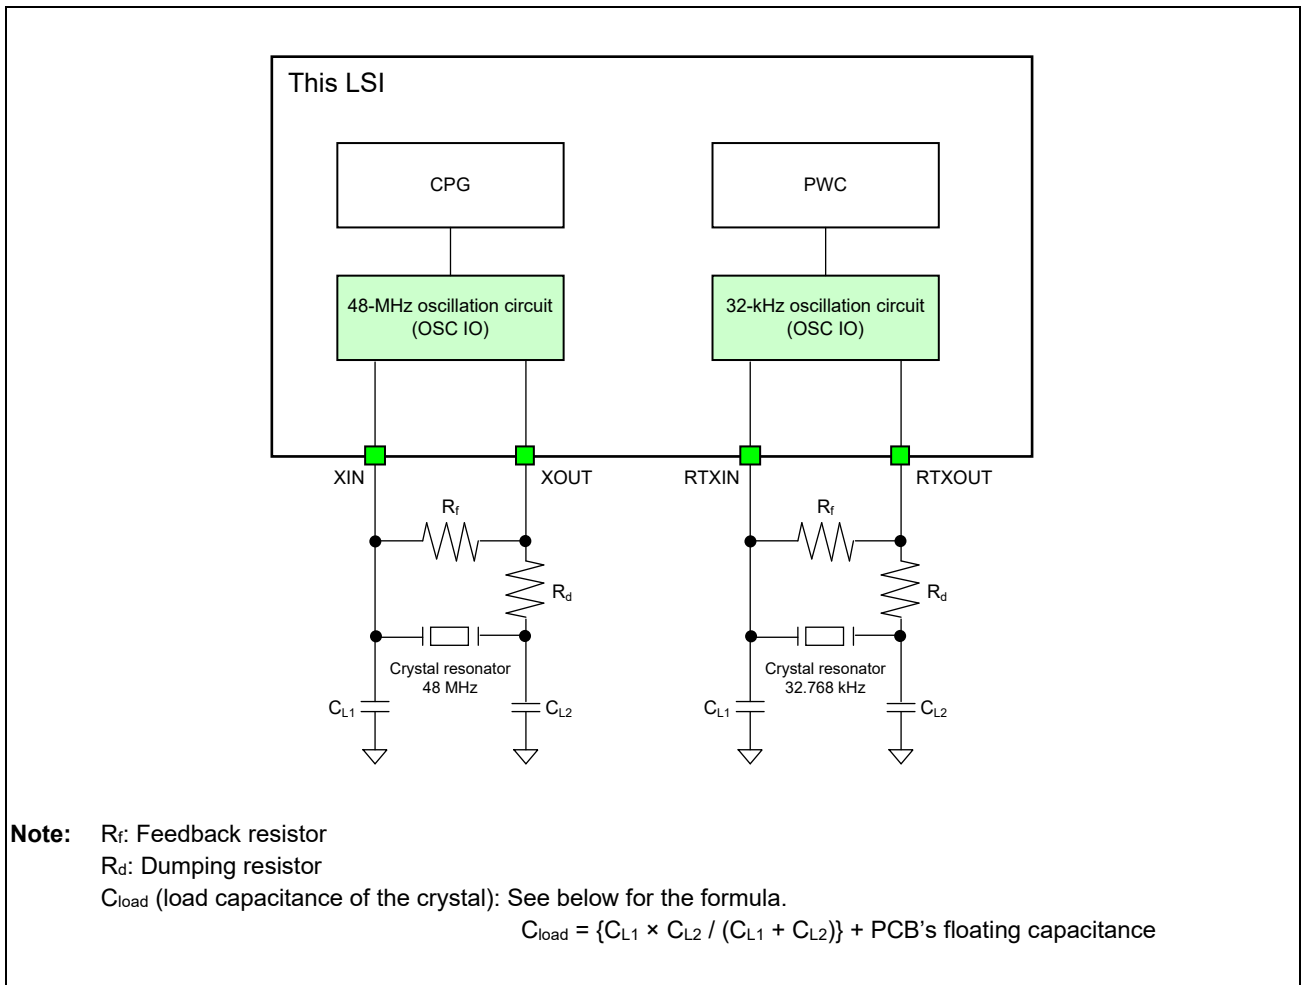

Figure 3.1-1 Example Connection of This LSI and the Crystals
**Table 3.1-1** lists the clocks for oscillation circuits. **Figure 3.1-1** shows an example connection of this LSI and the crystals.